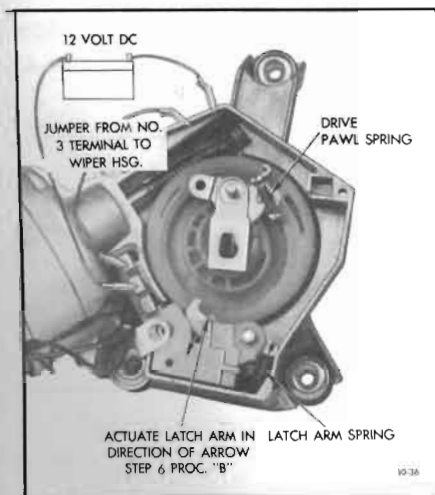

Figure 10-36—Checking Operation of Relay and Latch Arm
a. Observe if relay latch arm spring is connected properly. See Figure 10-36.
c. If items in a and b check out, connect power source to wiper and connect jumper wire from Terminal No. 3 to wiper housing, Figure 10-36. Do not make any connections from Terminal No. 1. Manually actuate latch arm in direction of arrow and observe if it remains in energized position (inside plastic switch housing out of patch of gear drive pawl). If it remains in energized position, check for grounded red leads from coil to Terminal No. 1. If red lead is not grounded, coil is probably grounded internally and relay switch should be replaced.
a. Check that drive pawl and relay latch arm springs are properly connected as shown in Figure 10-36.
(1) Solder joint at No. 3 wiper terminal.
(2) Splice joint - black lead with pink stripe to field coil leads.
(3) Splice joint - black lead to field coil.
(1) Remove small amount of insulation from black lead with pink stripe and connect test light between exposed wire and wiper housing.
(2) Connect power source and jumper to wiper as shown in Figure 10-36 and observe if test light goes out once for each revolution of gear or if light glows steady. If light glows steady, relay switch contacts are not opening and switch is defective. If light goes out each time drive pawl moves into relay switch slot relay switch is functioning correctly.
a. Check for grounded condition in the internal black lead that connects to wiper terminal No. 3. Refer to Figure 10-36 for Terminal No. 3 location.